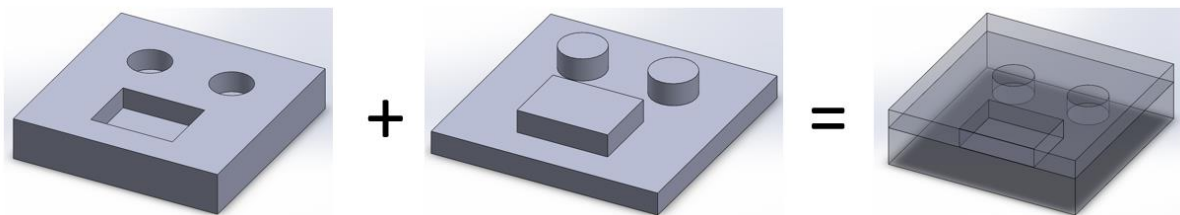

Figure 1. The provided primary component and designed complementary component are required to fit together.
2. You must then design a complementary CAD model based off the provided engineering drawing such that the two components fit together as best as possible (see Figure 1). Some features will be more difficult to design and subsequently manufacture than others. You will need to make a decision about what you feel comfortable achieving. **Note, these two components are required to have a “clearance fit” during assembly.**